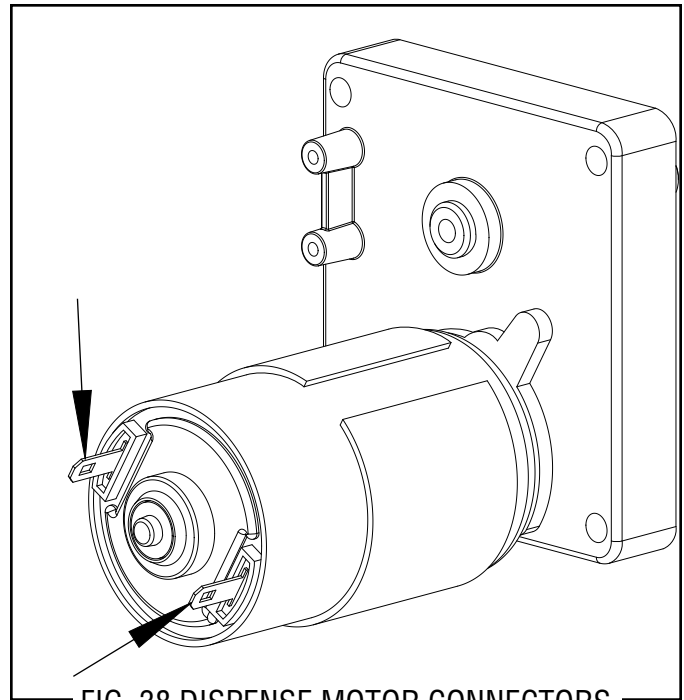

FIG. 38 DISPENSE MOTOR CONNECTORS
5. Reconnect the two wires to the motor as shown in Fig. 38.